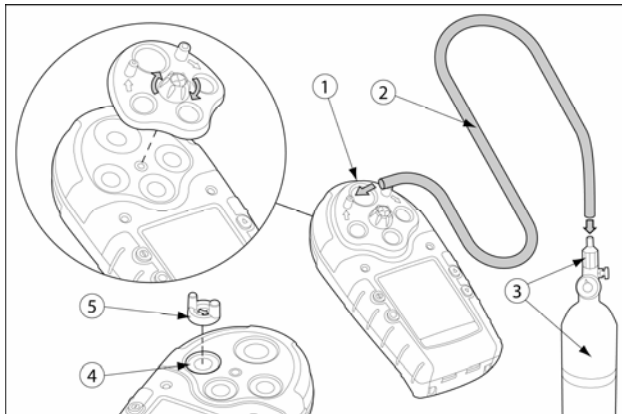

Figure 3. Applying Gas to the Sensors
The calibration cap, single gas calibration cap, and hose are shipped with the detector. Refer to Figure 3 and Table 10 and for installation.
If an O₃ or ClO₂ sensor is located in the Toxic 2 position (refer to Figure 3 and Table 10), a single gas calibration cap must be used to ensure accurate calibration.
1. Insert the cap into the Toxic 2 sensor position on the detector (refer to Figure 3). Press firmly until the release tabs click.
5a) Attach the calibration cap (or single gas calibration cap for O₃ and ClO₂) and apply gas to the sensor(s). To attach caps, refer to Figure 3.